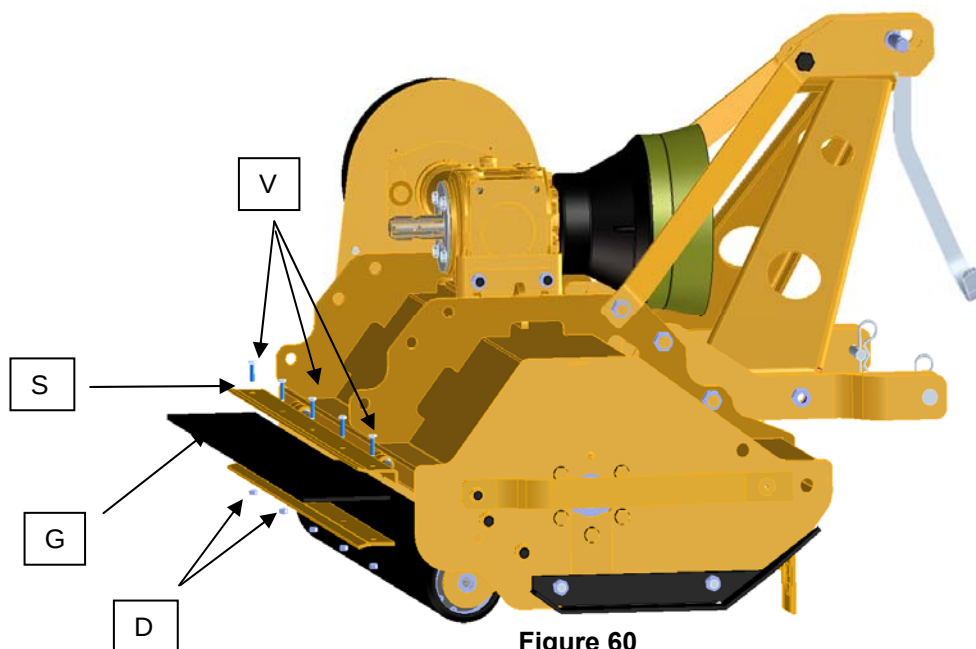

Figure 60
2. Unscrew the nuts D and remove the screws V as in figure 60, ensuring that the rubber fabric sheet G and the support S do not fall to the ground;